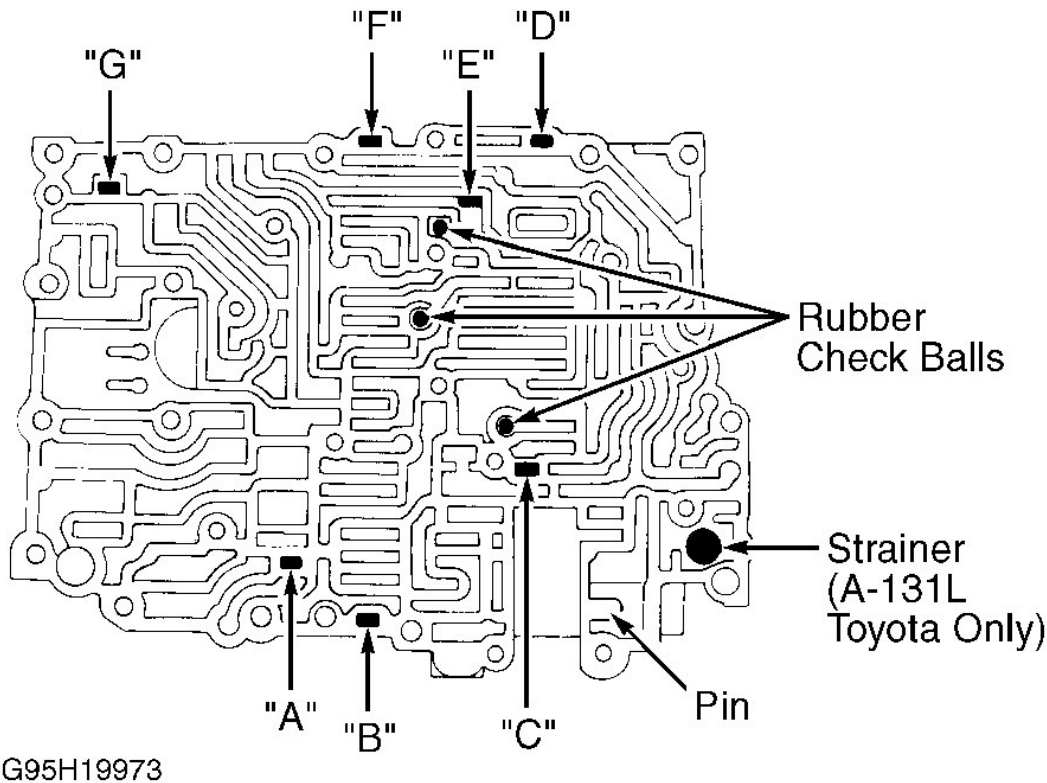

Fig. 32: Identifying Lower Valve Body Check Ball, Pin & Retainer Locations
1. Coat all components with ATF. To reassemble, reverse disassembly procedure. Ensure check balls, pins and strainer on upper side of lower valve body are installed correctly. See **Fig. 32**. Ensure check ball, pins, retainers and vibrating stopper on lower side of upper valve body are installed correctly. See **Fig. 30**.